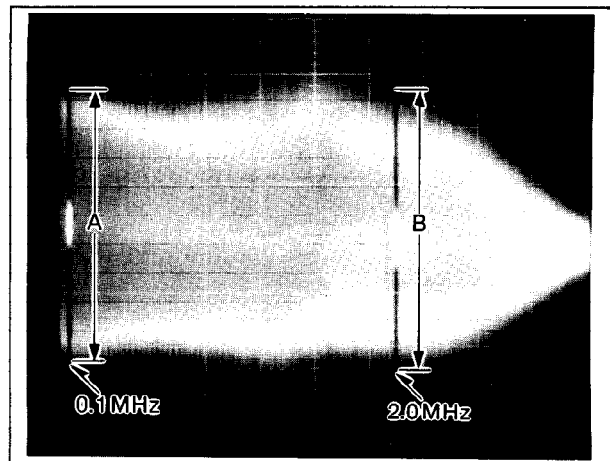

Fig. E12: SP MODE
4. Adjust VR3305 so that the ratio of 0.1MHz level and 2MHz level (A:B) to be  $0 \pm 1\text{dB}$  (90% ~ 110%) as shown in Fig.E12.